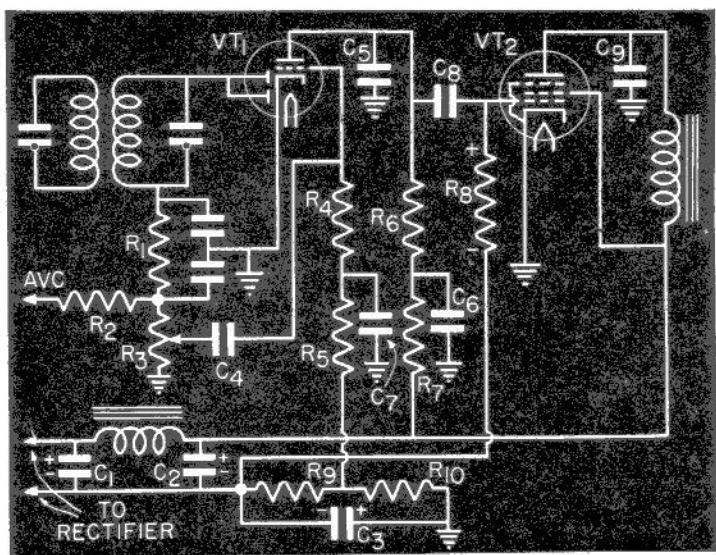

FIG. 5. This circuit is the same as that in Fig. 3. It is repeated here for your convenience in reference.
► If the stage uses a fixed bias, such as  $VT_1$  in Fig. 5, distortion occurs if the plate voltage drops even slightly. For example, let's suppose condenser  $C_6$  becomes leaky. This effectively connects a resistance (the leakage resistance of  $C_6$ ) between the  $R_6$ - $R_7$  junction and the chassis. This leakage resistance acts as a voltage divider with  $R_7$ , so the plate voltage of  $VT_1$  is lowered. The bias on  $VT_1$ , however, remains normal, because the bias is determined by the voltage drop across  $R_{10}$ , which in turn is determined mostly by the plate current of  $VT_2$ . This normal bias voltage is too high for the lowered plate voltage, so distortion occurs.